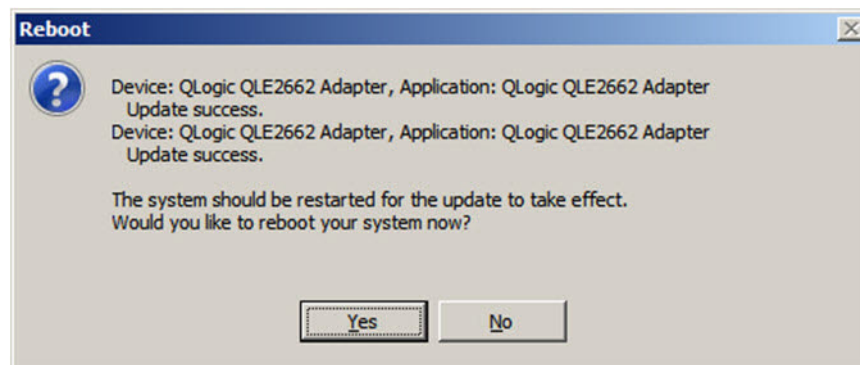

Figure 3-4. Result of Installation
4. When complete, the installer indicates the result of the installation (Figure 3-4). Click **Yes** to elect to reboot.